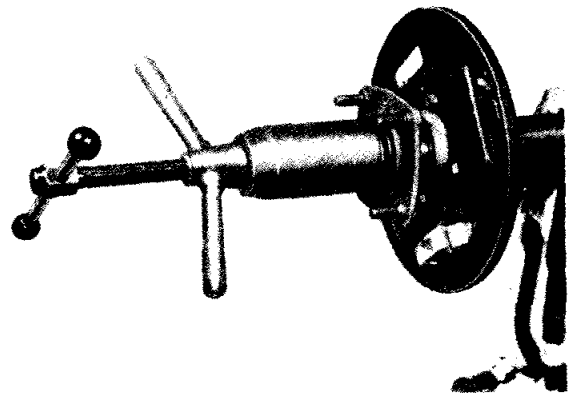

Fig. 34 The replacing of the disc wheel type hub utilising the Churchill Hub Replacing Tool No. S125.
- (xxxii) The hubs are next fitted by means of a special tool or press (Fig. 34), and secured by the splined hub tightening cones, conical washers and hub securing nuts. A substantial spanner will be required to tighten the castellated securing nut. (A tightening torque of 110—125 lbs. ft. is specified. After axle No. TS.8039 the torque was increased to 125—145 lbs. ft. when a nut of a different material was introduced.) Having thoroughly tightened up this nut, the hole in the axle shaft is lined up with one of the slots in the castellated nut and the split pin is fitted.